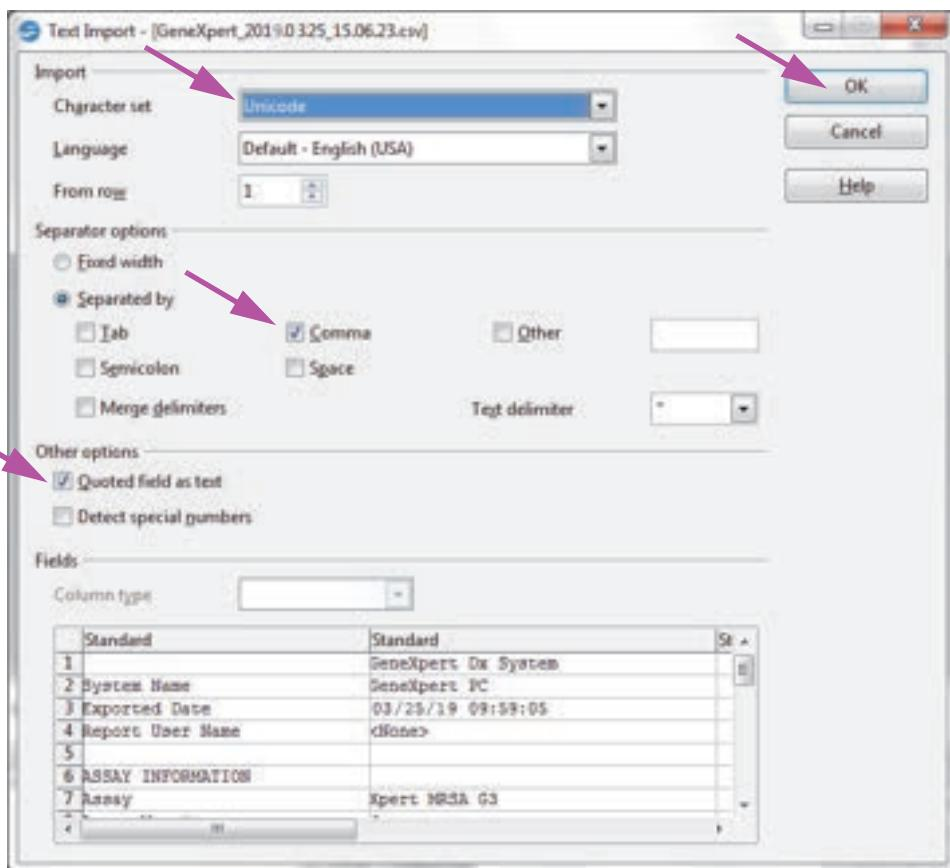

Figure 5-64. Text Import Screen with New Settings Selected
2. The Text Import screen will appear. On this screen, verify the checkboxes to the left of **Comma** and **Quoted field as text** have been checked. See Figure 5-64.